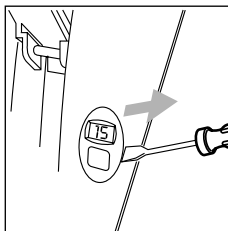

fig. 5
- Remove the minute timer from its compartment by prising it from the right side (see fig. 5).